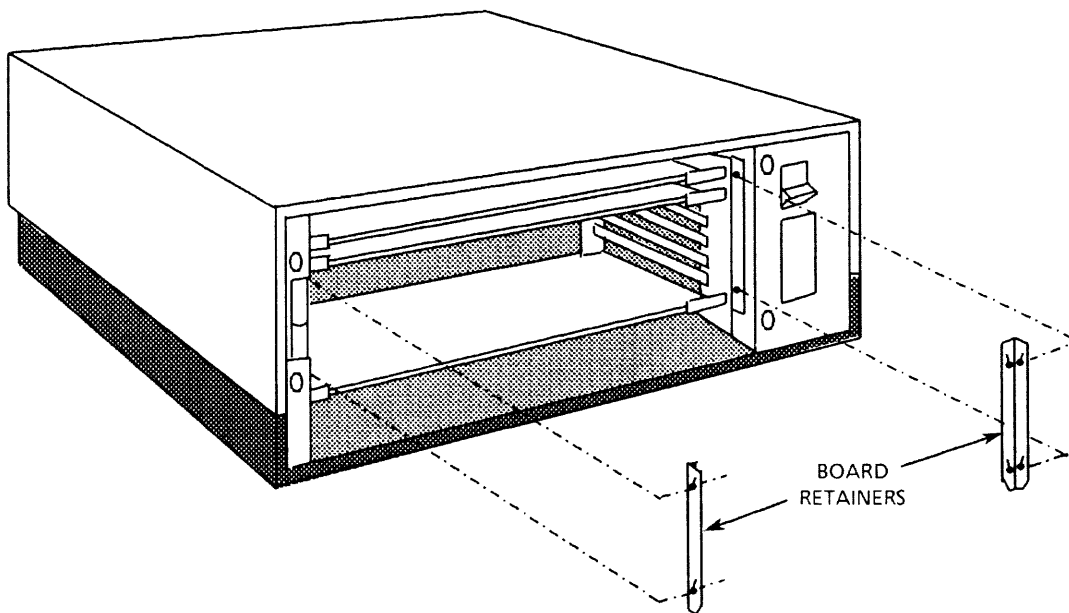

Figure 4-4. Removing the Board Retainers
4. Loosen the four Phillips screws that hold the board retainers to the cardcage as shown in Figure 4-4. Then lift the retainers up and out, and set them aside. (Note that the bottom ends of the retainers are pointed.)